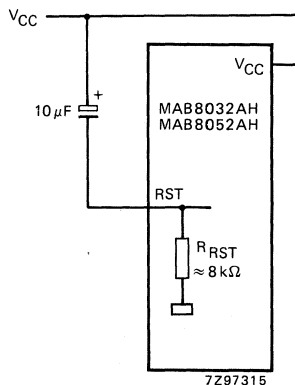

Fig. 18 Power-on reset.
**Power-on reset** (see Fig. 18)